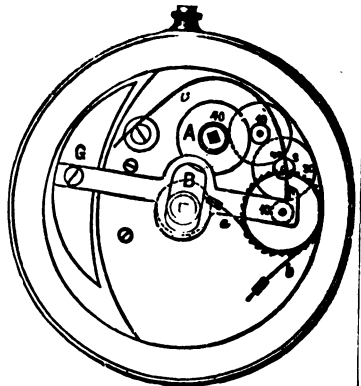

Fig. 2.
The method of winding just described can be applied only to a hunting watch. Fig. 2 represents an invention of Herr von Loehr, in which the motion of the wearer's body is utilized in winding. There is a weighted lever (G) pivoted at one end, and kept in its normal position against the upper of two banking pins by a long curved spring so weak that the ordinary motion of the wearer's body causes the lever to continually oscillate between the banking pins. Pivoted to the same centre as the weighted lever is a ratchet wheel with very fine teeth, and fixed to the lever is a pawl (*a*) which engages with the ratchet wheel. This pawl is made elastic, so as to yield to undue strain caused by the endeavour of the lever to vibrate after the watch is wound. A is the barrel arbor, and the connection between it and the ratchet wheel is made by a train of wheels as shown. *b* is a second pawl to prevent the return of the ratchet wheel. For setting hands there is a disc (B) which has a milled surface slightly cupped to suit the point of a finger.